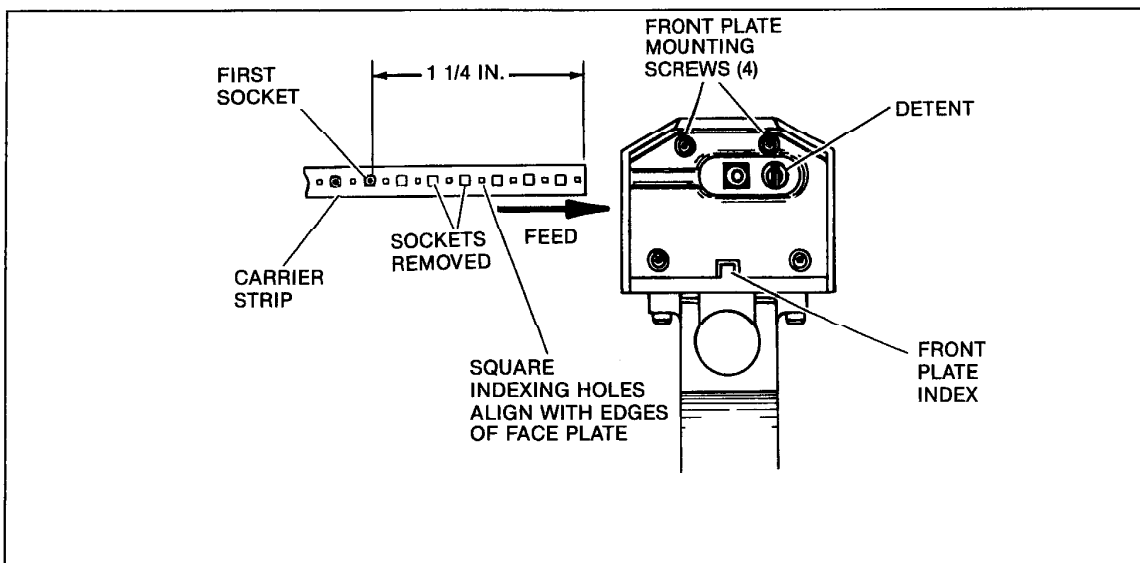

Fig. 3-3. Hand Tool Loading
Sockets are assembled to a thin, continuous plastic carrier strip and are supplied on 50,000-socket reels. Sockets are strip-fed through a feed slot in the right side of the insertion tool (see Figure 3-3). A convenient strip length, about 10 to 12 in., may be cut from the reel for loading, or continuous feeding from the reel may be used. Load product into the tool as follows:
1. Remove six sockets from approximately 1 1/4 in. at end of carrier strip as shown in Figure 3-3.
If tool jams or it is difficult to load or unload, front plate can easily be removed by removing four mounting screws (see Figure 3-3). Front plate contains no loose parts and it is indexed for correct positioning during re-assembly to hand tool.